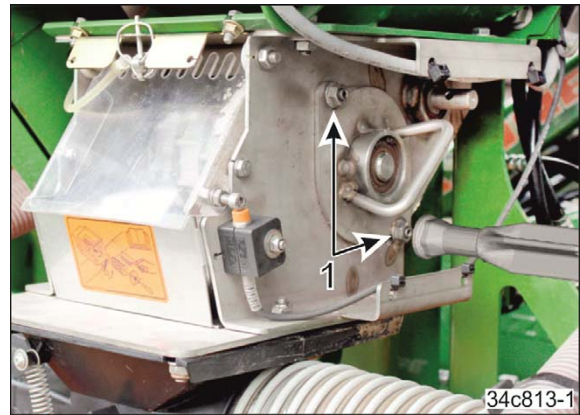

Fig. 180
- 7.2 Loosen the 2 hexagonal nuts (Fig. 180/1), but do not remove.